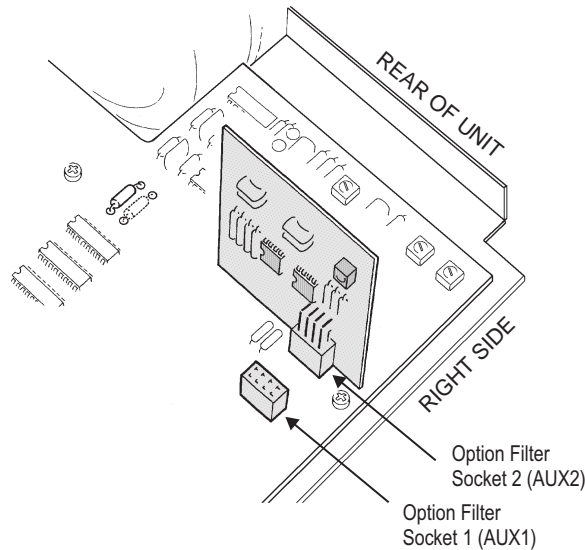

Figure C-2. Location and orientation of option filters
2. The two sockets for option filters are located near the right rear of the main analyzer circuit board. They are clearly labeled FILTER 1 and FILTER 2 on the circuit board. Remove the two screws which secure the filter hold-down bracket, and remove the hold-down bracket. See Figure C-2.